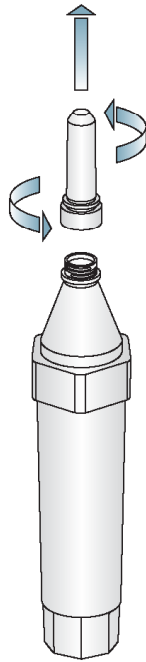

Figure 2
- 3.3. Remove the Microvial Tube(s) (see Figure 2, page 8), and place the tube(s) into a separate non-magnetic microvial rack.